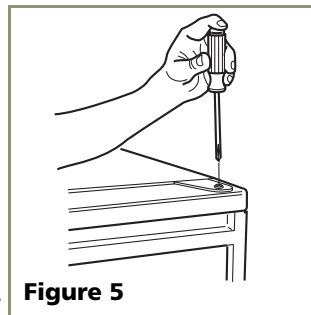

Figure 5
1. Remove top hinge screw pin (using a Phillips screwdriver, see **Figure 5**). Remove door by tilting forward and lifting off bottom hinge pin.